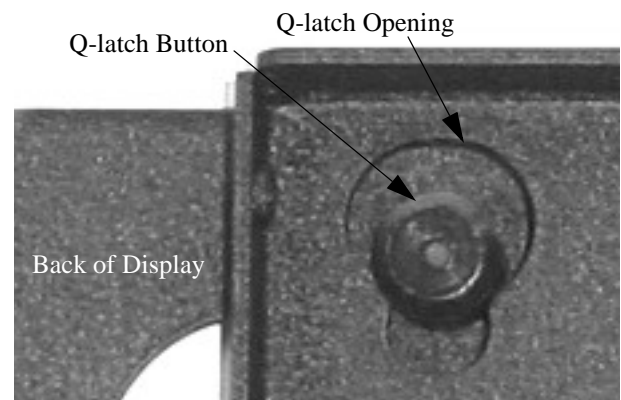

FIGURE 2. ENGAGE Q-LATCH
3. Using two people, align the Q-latch buttons with the Q-latch openings and install the display. Make sure the buttons of the Q-latch bracket fully engage all the Q-latch openings on the PWL/PWP (see Figure 2).